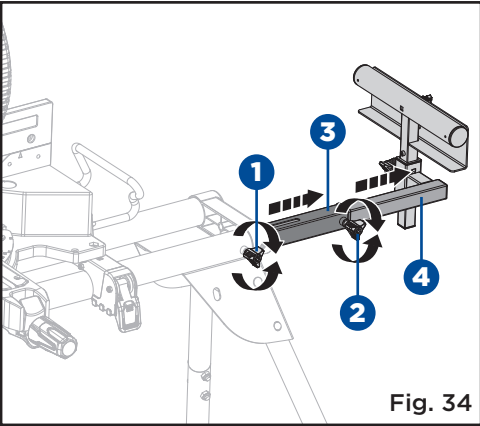

Fig. 34
**USING THE EXTENSION RAILS FOR CUTTING LARGER WORKPIECES (Fig. 34)**